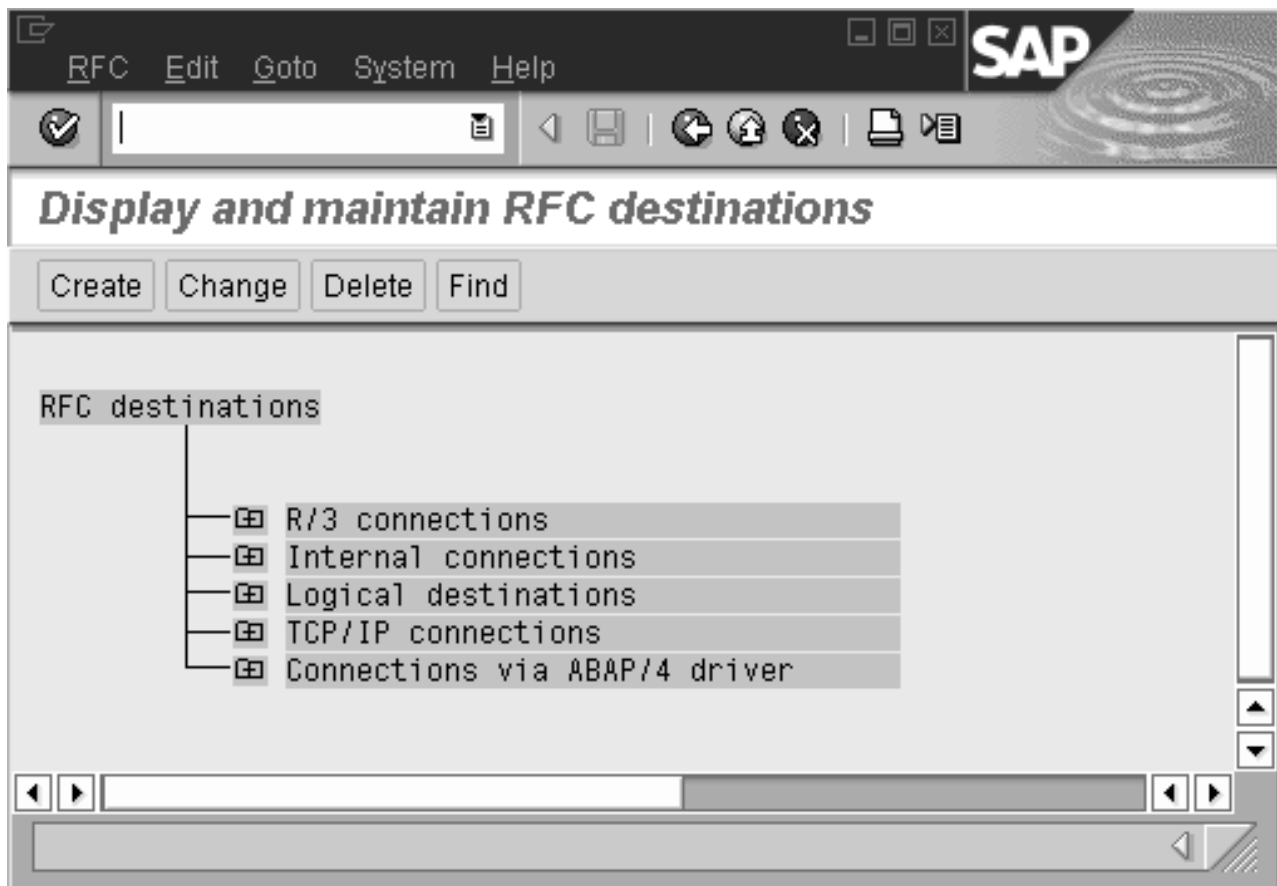

Figure 41. Display and maintain RFC destinations window
3. From the **Display and maintain RFC destinations** window (Figure 41 on page 100), click on the **Create** button.
4. From the **RFC destination** window shown in Figure 41, you must: